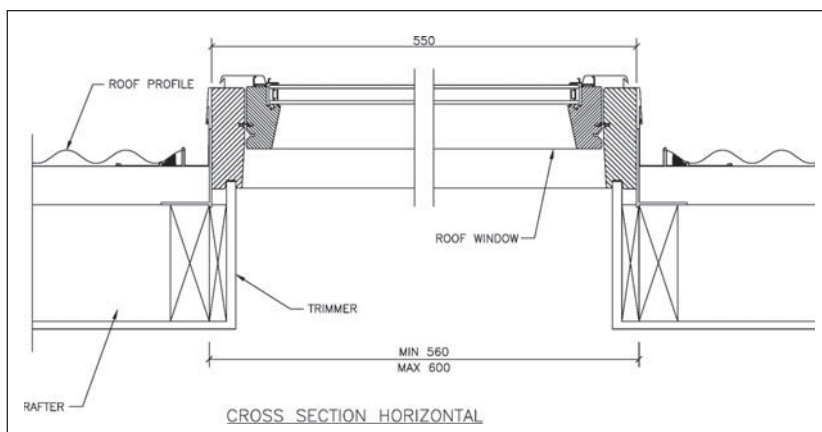

Fig 4
- 4) The roof window rests on and is installed to the rafters with four metal angles. The optimal distance between the rafters should approximate the width of the roof window, but may be 10 to 50mm wider than the width of the roof window (e.g. for a 550mm wide roof window, the optimal distance between the rafters is between 560 and 600mm) (Fig 4). If the roof has different rafter spacing, horizontal trimmers may be needed.